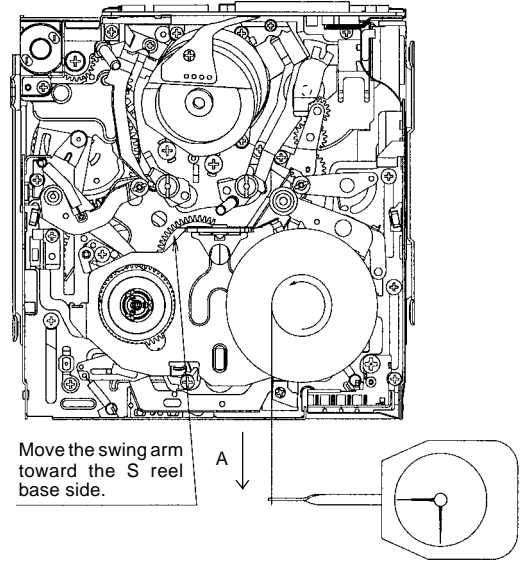

Fig. 7. Loading back tension measurement method
- (1) Remove the cassette controller assembly, then apply DC3V to the loading motor and put the system into L. start mode. (refer to 8-1)
- (2) Move the swing arm toward the S reel base side. Be careful not to cause damage to the gears and other parts in the process. (Fig. 7)
- (3) Set a back tension measurement reel hub on the Tu reel base.
- (4) Using a dial tension gauge, pull the string in the A direction, then confirm that the tension is within the standard.